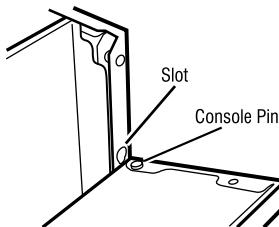

Figure 8. Slide console pins up and out of slots
3. Slide the console so that the console pins located at the bottom corners of the console move up and out from the slots, removing the console from the front of the machine. See Figure 8.